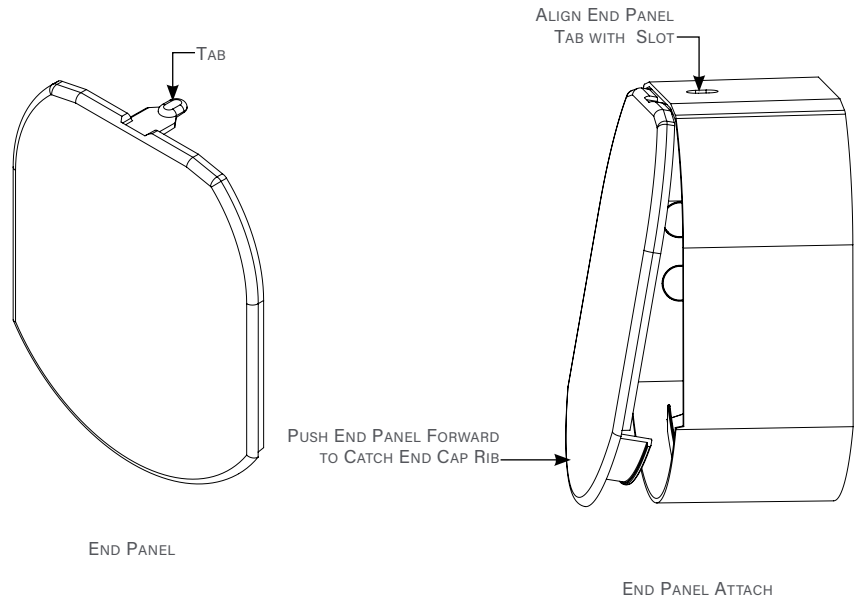

Figure 9
1. Align the tab on the end panel with the slot on the end cap (Figure 9).
2. Push the bottom of the end panel forward to snap onto the rib inside the end cap (Figure 9).